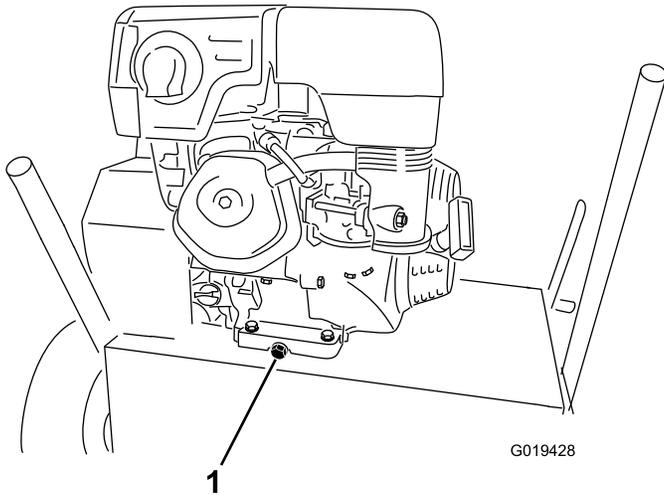

Figure 16
4. Remove the drain plug (Figure 16).